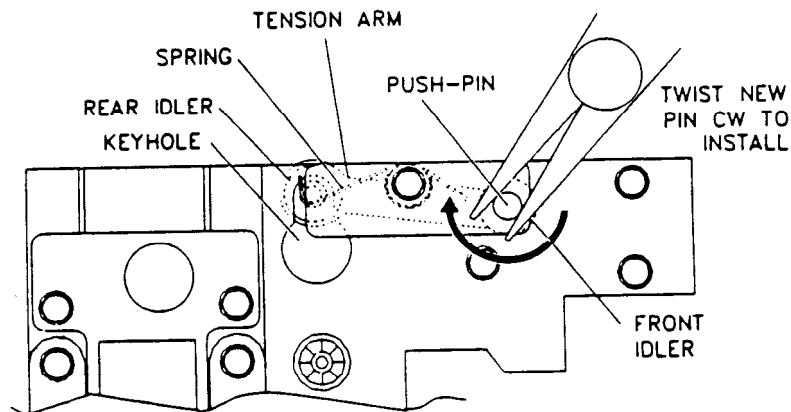

Figure 3. Side Piece Details
18. Grasp the head of the push-pin with a small pair of pliers. Seat the pin by rotating it clockwise with the pliers, 1/4 to 1/2 turn as shown in Figure 3. The pin will cut new threads and tighten into the pivot post. Do not overtighten the pin.